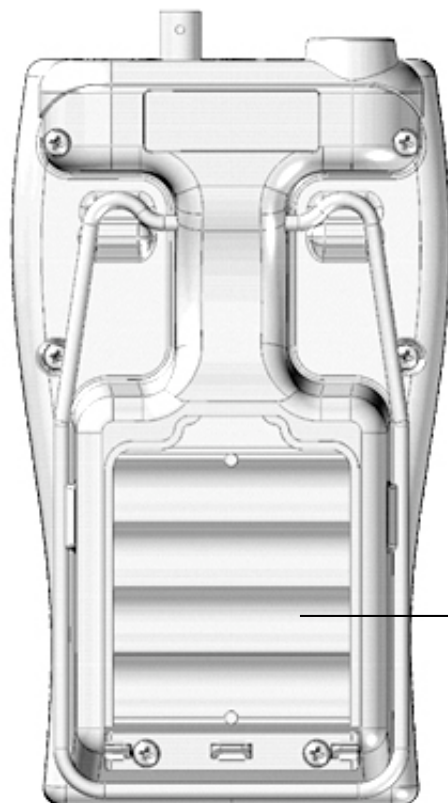

Figure 3-4
- 1) With the power switch turned off apply pressure to the battery compartment cover at the point shown in Figure 3-4. Slide the cover open and remove.